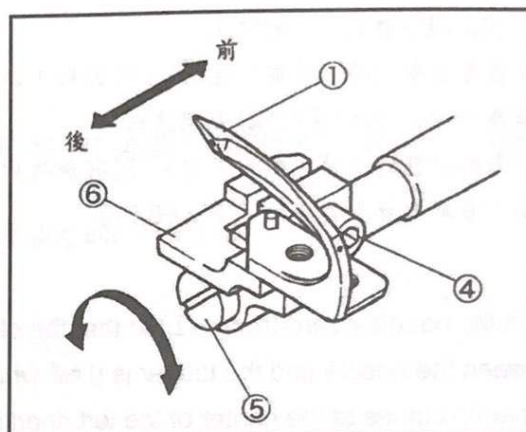

Fig.54
當下勾針①移動從左到右，會在針的後面。調整其位置使下勾針更接近針，其間隙 0-0.05mm，但不能碰到針，當下勾針的尖端在左針的中間時，放鬆螺絲④轉動螺絲⑤調整前後位置。調整之後檢查間隙和鎖緊螺絲④。(Fig.54, 55)
- 順時間旋轉螺絲⑤會往前。
- 逆時間旋轉螺絲⑤會後後。
When the looper① moves from the left to the right, it passes behind the needle. Adjust the position so that the looper comes closely to the needle with the clearance of 0-0.05 mm but without touching them when the looper tip comes at the center of the left needle. Loosen the screw④ and turn the adjusting screw⑤ to adjust it. After adjusting, check the distance and tighten the screw④ securely. (Fig.54,55)
- To move forward, turn the screw⑤ clockwise.
- To move backward, turn the screw⑤ counterclockwise.